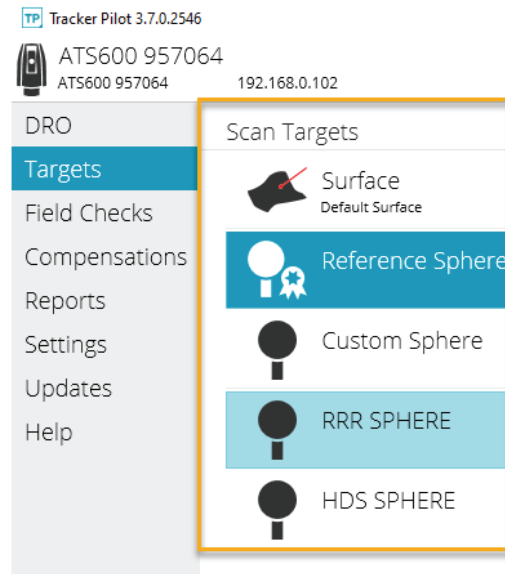

Figure 3-79. Scan Targets
- **Scan Target: Custom Sphere.**  Is used to scan a tooling ball of a given diameter and returns the sphere center point. These target definitions are defined within Tracker Pilot and will then be available for use within SA (Figure 3-79).